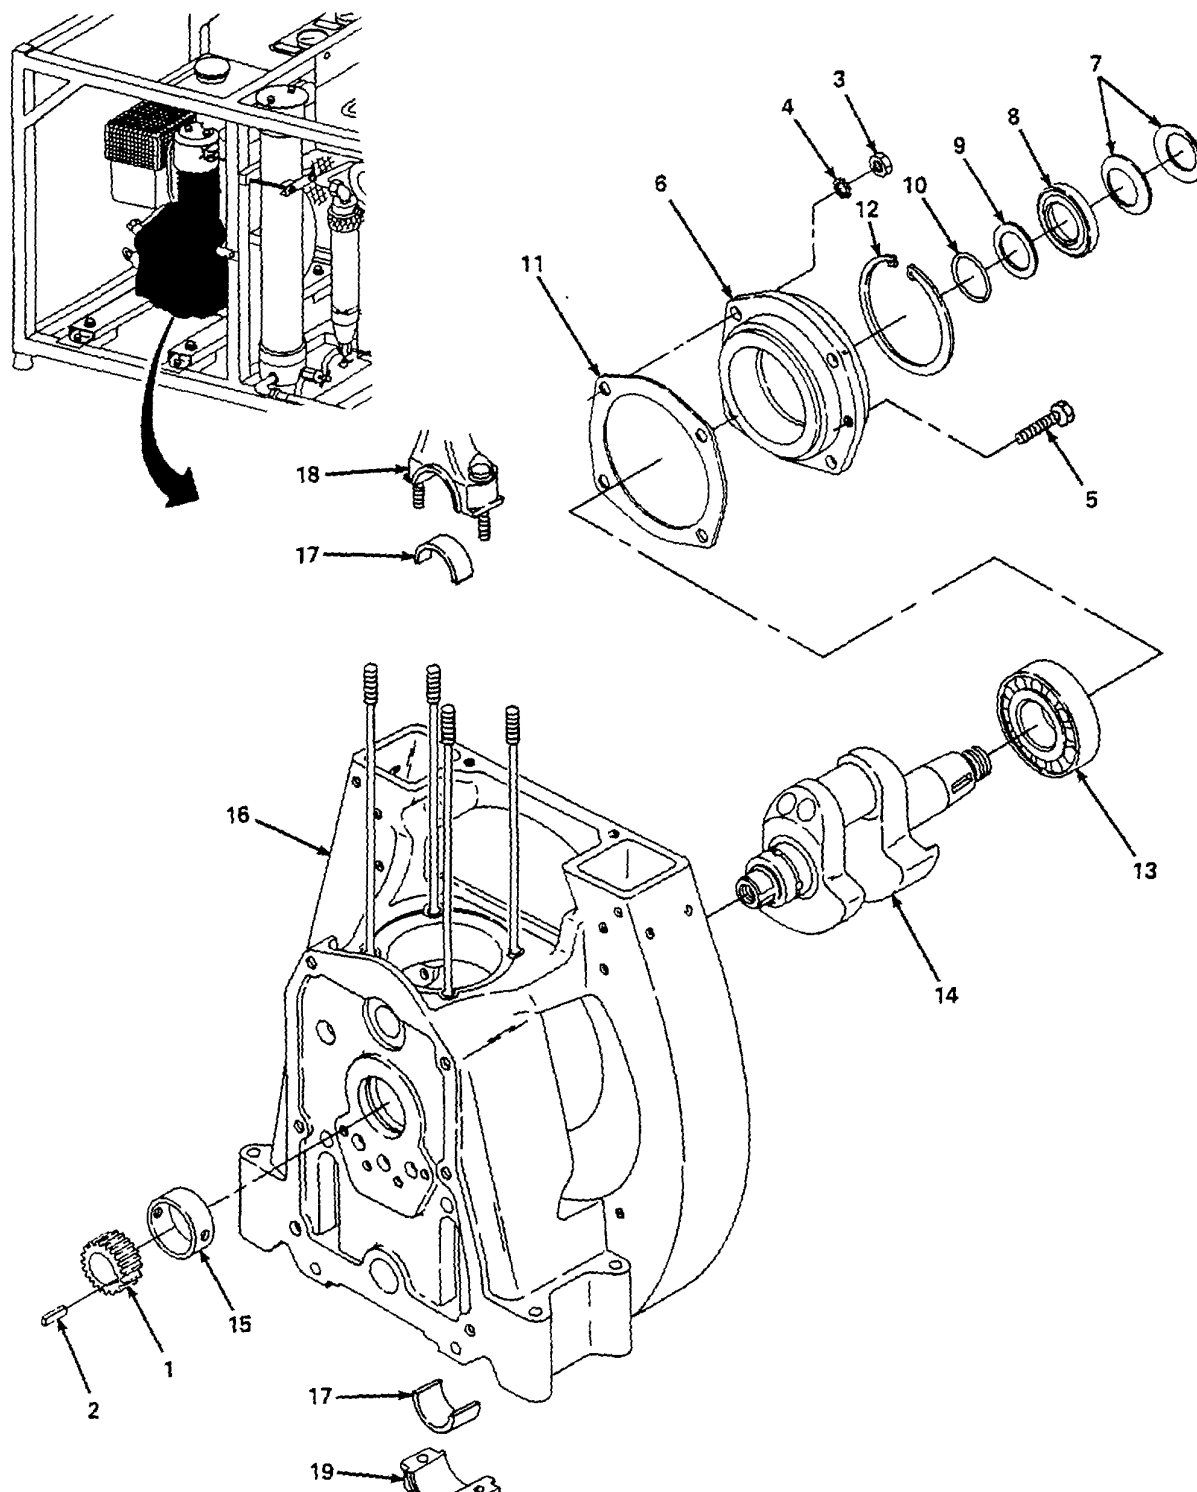

Figure 6-21. Crankshaft, Replace.
a. Replace. (figure 6-21)
- (1) Using puller, remove gear (1).
- (2) Remove key (2).
- (3) Remove four nuts (3) and washers (4).
- (4) Screw two screws (5) into threaded holes in bearing carrier (6) and tighten screws (5) evenly until carrier (6) breaks free and remove screws (5).
- (5) Remove carrier (6), two belleville washers (7), oil seal (8), preformed packing retainer (9), preformed packing (10), and gasket (11). Discard preformed packing (10) and gasket (11).
- (6) Remove retaining ring (12) and remove bearing (13) from carrier (6). Discard retaining ring (12).
- (7) Remove crankshaft (14).
- (8) Press bushing (15) out of crankcase (16).
- (9) Remove connecting rod bearings (17) from connecting rod (18) and bearing cap (19).
- (10) Install new connecting rod bearings (17) in connecting rod (18) and bearing cap (19).